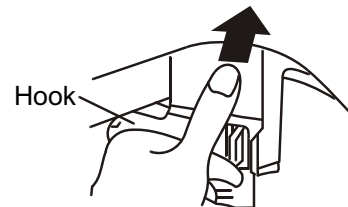

Figure 2
- (1).Install the corrugation pipe.
- (2).Insert the mounting plate at the bottom of the filter into original position.
- (3).Hang up the hook at the left upper side.
- (4).Push the upper part in as indicated in Figure 2.